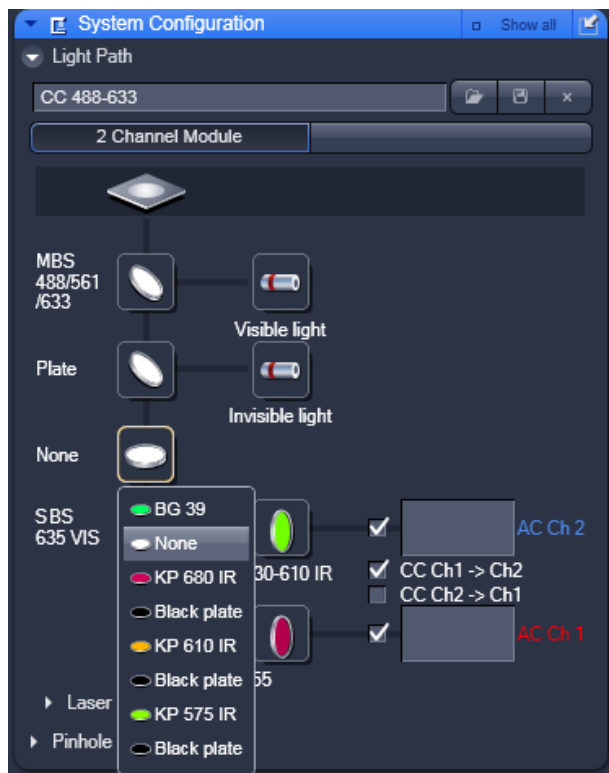

Fig. 9-22 System Configuration tab - Light Path panel with IBF filter list
- Click on the IBF icon to open a list of block filters (Fig. 9-22).